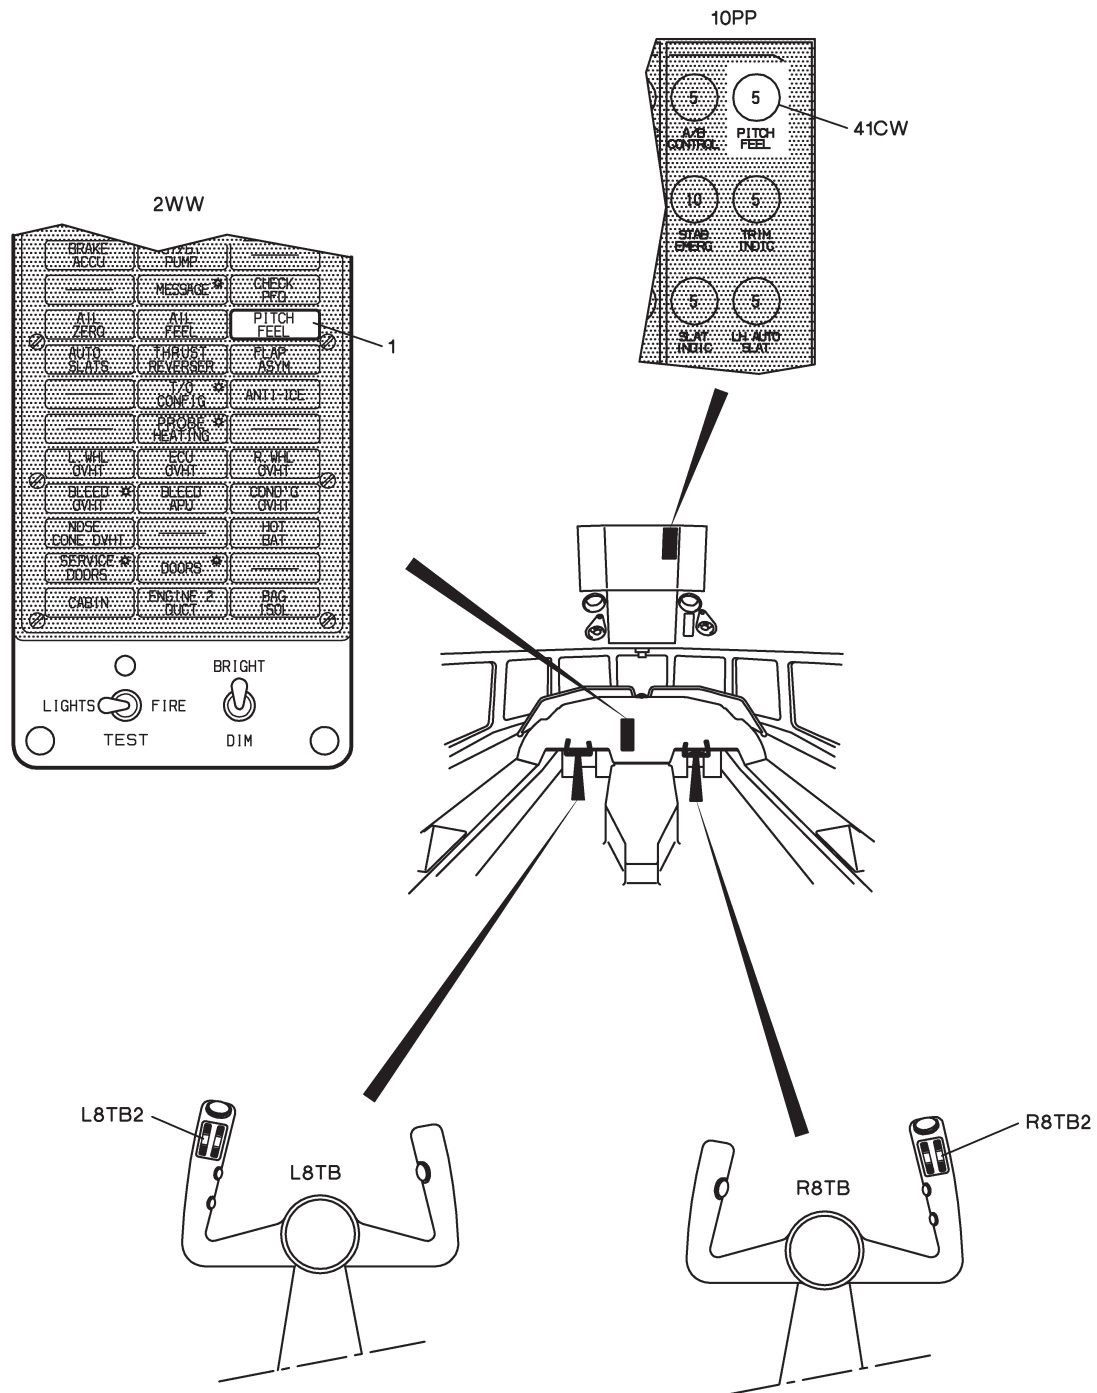

FIGURE 1: LOCATION OF COCKPIT CONTROLS AND INDICATORS
- A. Cockpit Controls and Indicators (Refer to Figures 1 and 2)
- (1) Preliminary Steps (Set-up and initial airplane configuration requirements)
- (2) Test of Monitoring System
- (3) Test in Normal Operation
- (4) Test with Slats
- (5) Test with Air Data
- (6) Final Steps (Return the airplane to the operational configuration)